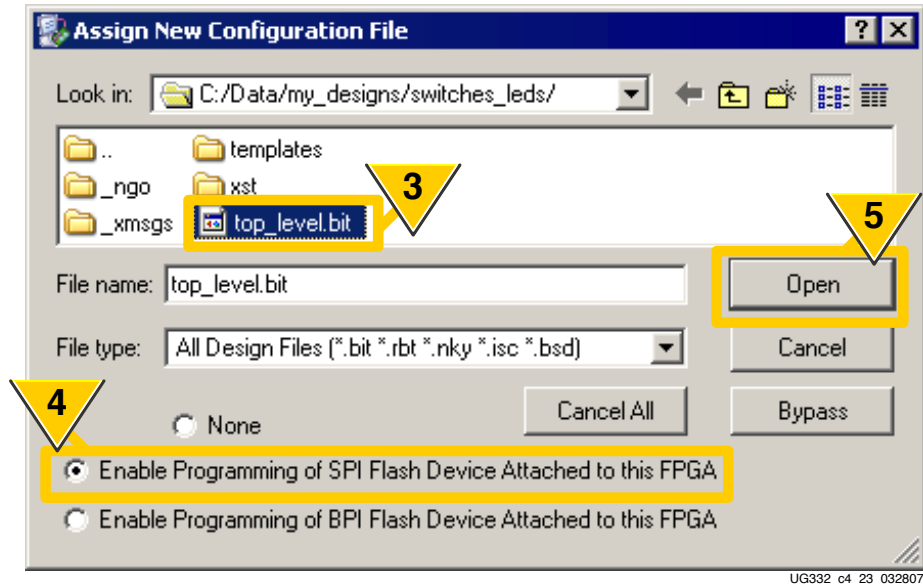

Figure 12-12: Select the FPGA Bitstream File and Enable SPI Programming
3. Select the FPGA bitstream file (*.bit) to be programmed into the FPGA, as shown in Figure 12-12. This step is superfluous but required for iMPACT 9.1i. This step will be eliminated starting in iMPACT 9.2i. This file is *not* the special FPGA-based SPI programming application.